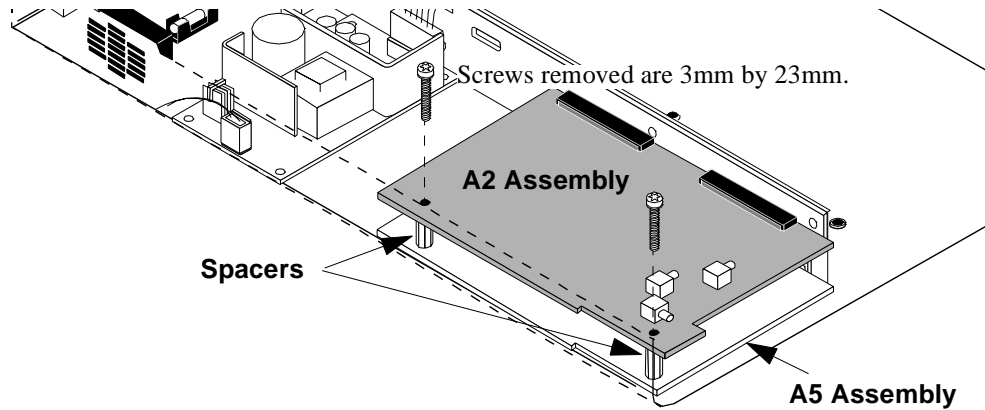

Figure 34 Removing A2 Assembly Screws
5. If the Cellular Adapter is an Option 002 or Option 003, go to step 6. For Option 001, remove the 2 screws securing the A2 (and A5) assembly to the deck, see figure 34. There are 2 spacers attached under the A2 assembly.